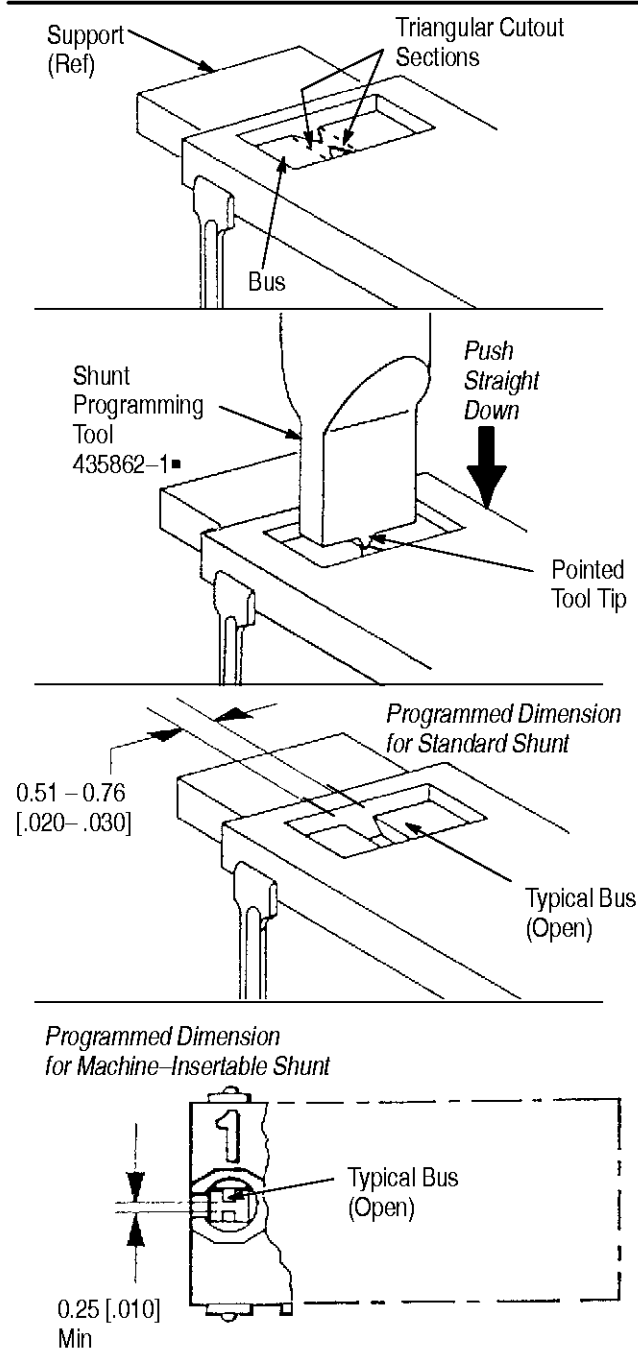

Figure 2
1. Make sure shunt is solidly supported so pin contacts will not be deformed when tool is pressed against bus (see Figure 2).